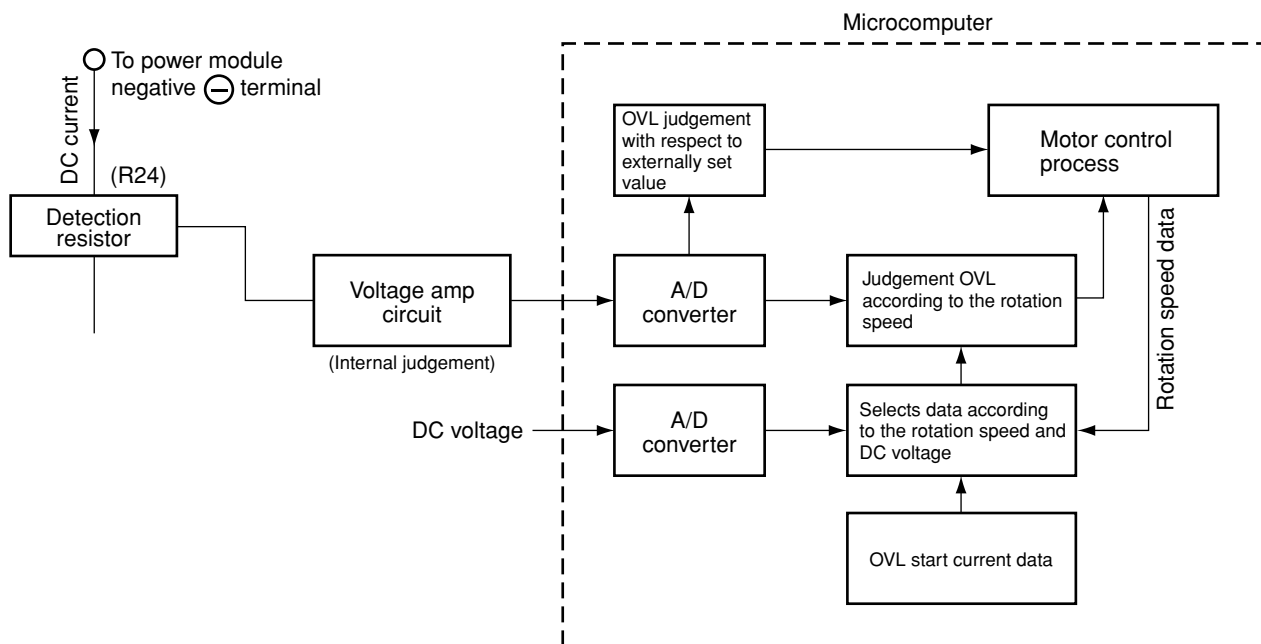
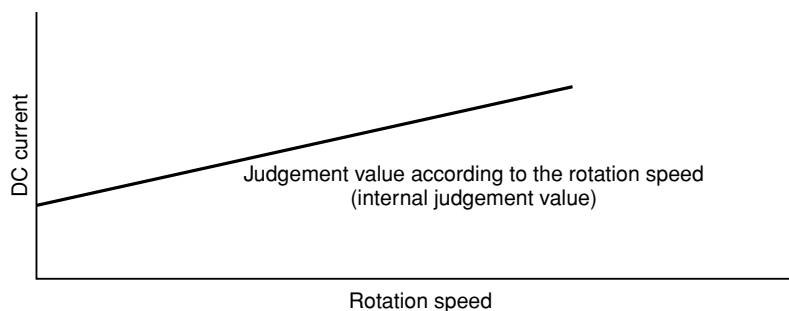

Fig. 8-4 Overload Control System Configuration
Fig. 8-5
- As shown in diagram, if current exceeding 21A (27A for RAC-50NH5) flows, voltage at point (A) recognized by detecting resistor is input to pin ⑩ of SPM2 – HIC, and voltage divided by R41 and R43 is input to pin ⑨ of IC1. Since threshold of IC1 is exceeded in this case, Lo signal is input from pin ⑧ (Voltage at point (B)). When Lo signal is input to pin ⑰ of microcomputer, microcomputer stops drive output.
(2) Overload control circuit (OVL control circuit)
- Fig. 8-4 shows the overload control system configuration and Fig. 8-5 is a characteristic diagram of overload judgement values. There are two judgement methods-external judgement which compares the externally set value with the DC current value regardless of the rotation speed and internal judgement which compares the set value that varies according to the rotation speed programmed in the microcomputer software with the DC current value.